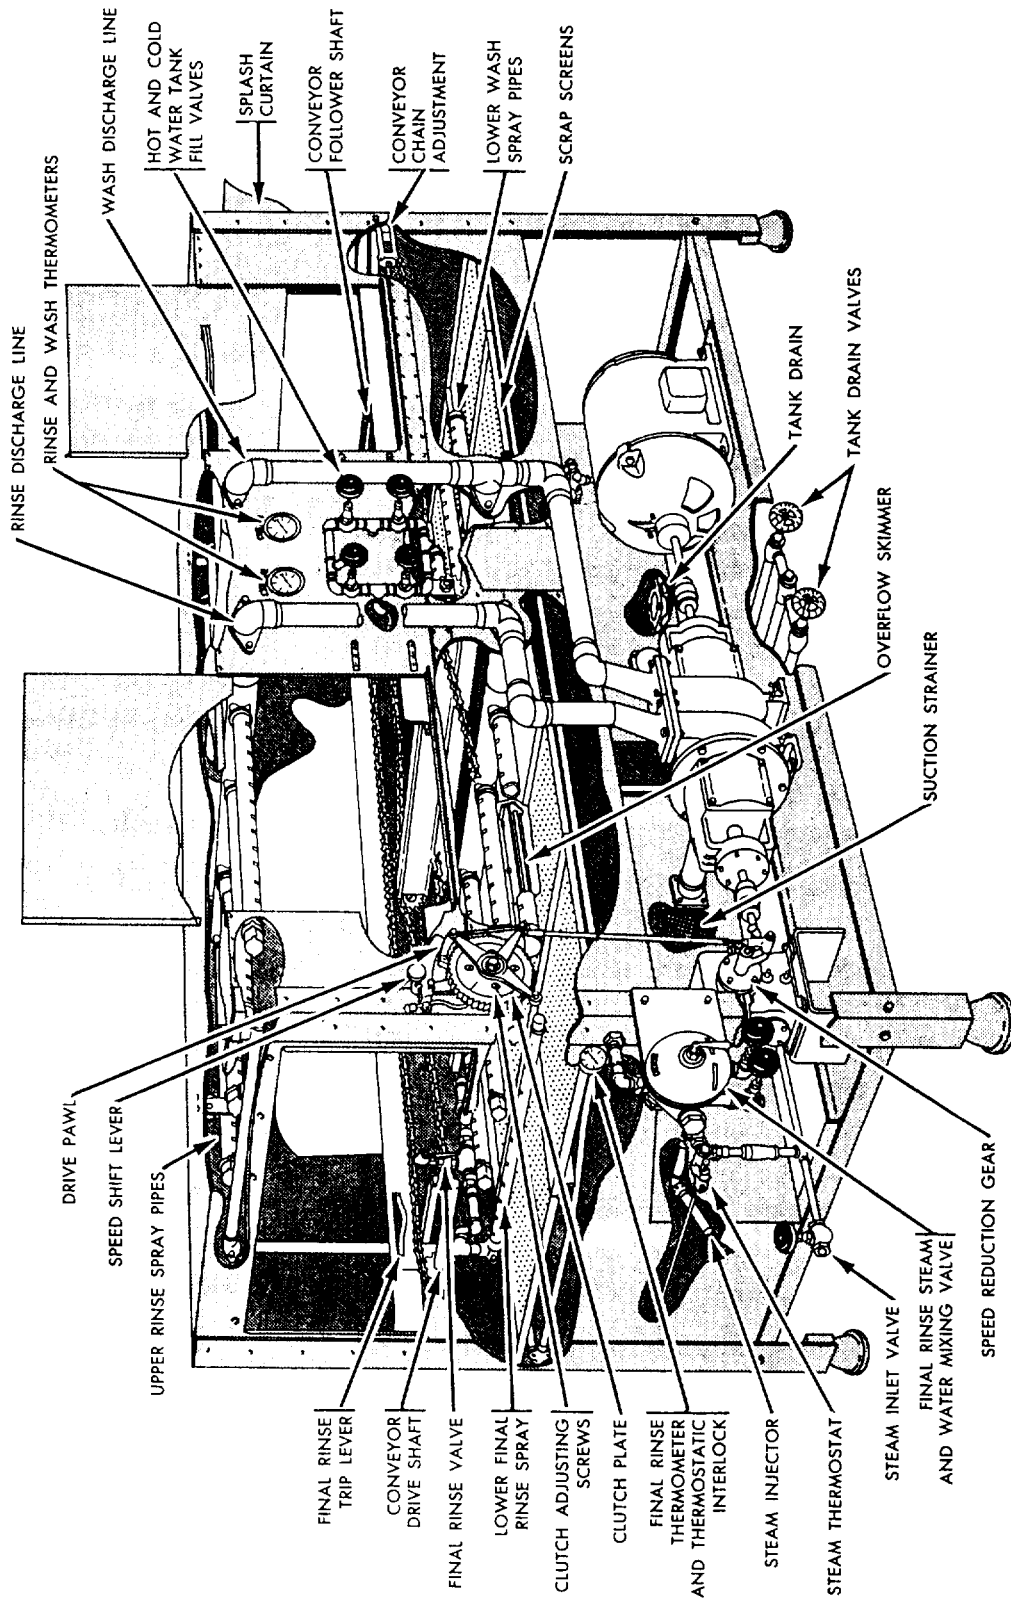

Figure 10-47.—Typical automatic double-tank dishwashing machine.
**DOUBLE TANK.**— Double-tank machines (fig. 10-47) are available in several capacities. They are used when more than 150 persons are to be served at one